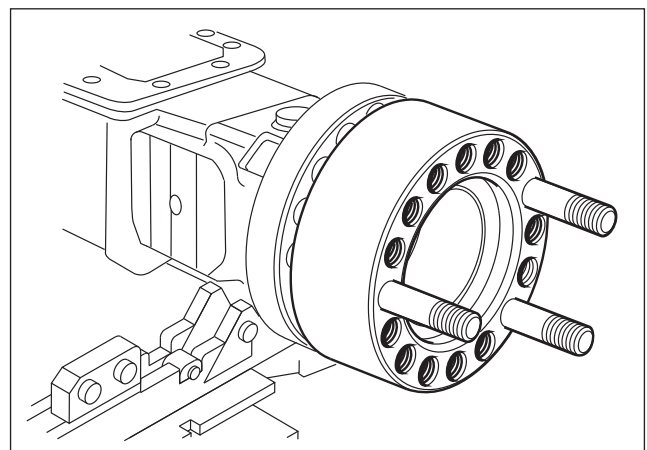

Fig. 3.4
4. Put the spacer (if needed according to the axle variant) in position - Fig. 3.4